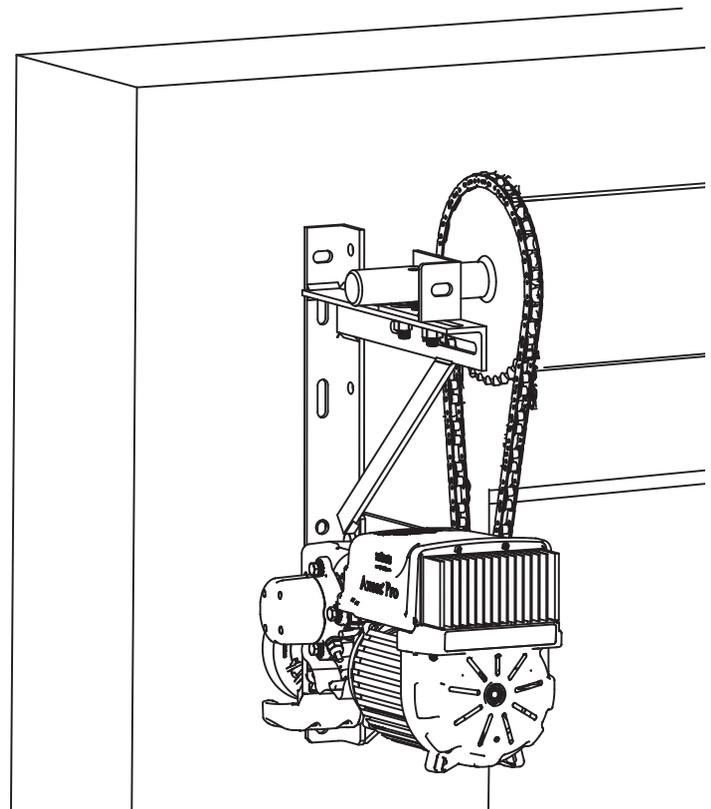

Fig: 2.5.1
- Position into the brackets as per fig 2.5.1.